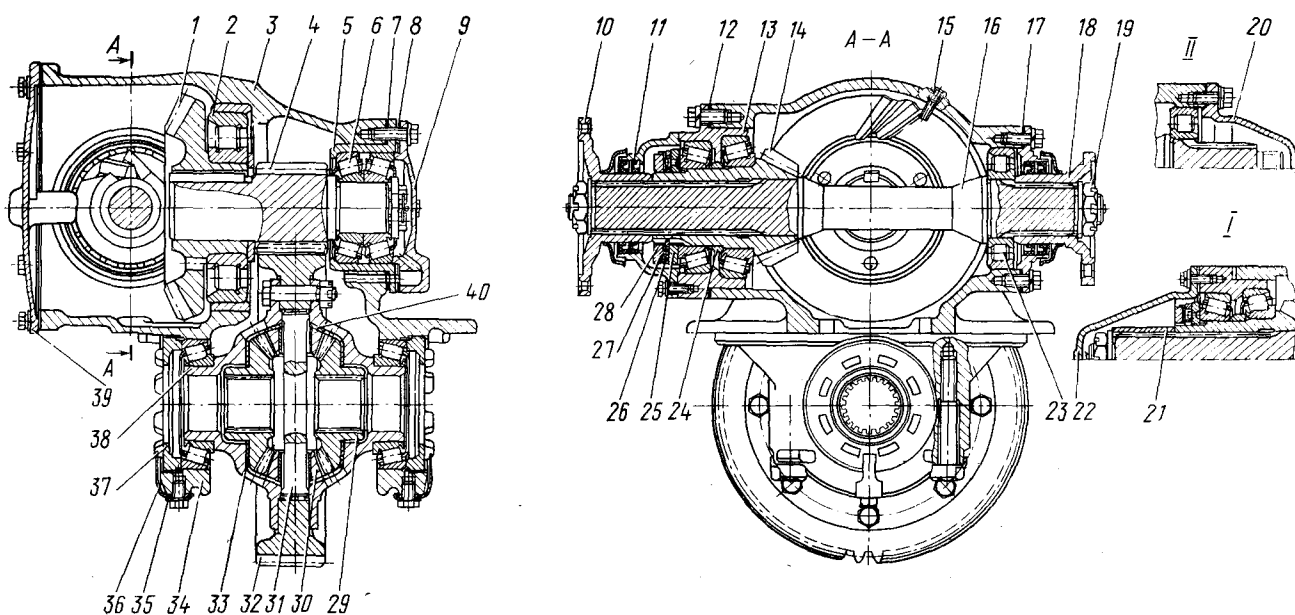

Fig. 77. Final Drive:
Axle final drive is of double-transmission type comprising a pair of bevel gears 1 and 14 (Fig. 77) with round teeth and a pair of skew spur gears 4 and 32.
Final-drive gears and bearings are lubricated with oil filled in the axle case. Oil is entrapped by gears, splashed over, flowing via roller bearing 2 (see Fig. 77) to the final drive unit case gear cavity and then to the axle case.
1. Fit the final drive unit in the fixture, remove the differential unit and flanges. Screw out the bolts which fasten bearing body 13 (see Fig. 77) of driving bevel gear 14. Pick out the driving gear shaft together with the body and gear.
cover and remove the latter. Unlock locknut 28 (see Fig. 77) and undo it. Remove lock washer 26 and safety washer 27. Tighten the nut at 450—500 N·m (45—50 kgf·m). Fit the indicator and measure clearance in the bearings. Do not readjust the bearing
2. Adjust preload of the bearings on the intermediate shaft. When adjusting, select a pack of shims 8 (see Fig. 77) to be placed under the bearing cap 9 of body 5. Check that the torque required for cranking the intermediate shaft is about 0.9—1.5 N·m (0.09—0.15 kgf·m).
4. Mount the differential unit and adjust the differential bearings. Tighten the differential bearing cap fastening bolts with a torque of 320 N·m (32 kgf·m). When adjusting the differential bearings, use nuts 37 (see Fig. 77). On tightening the nuts, check that the distance between the differential bearing caps is widened by 0.04—0.14 mm. When adjusting, crank the differential unit so as to set the rollers in the bearings. The driven spur gear rim